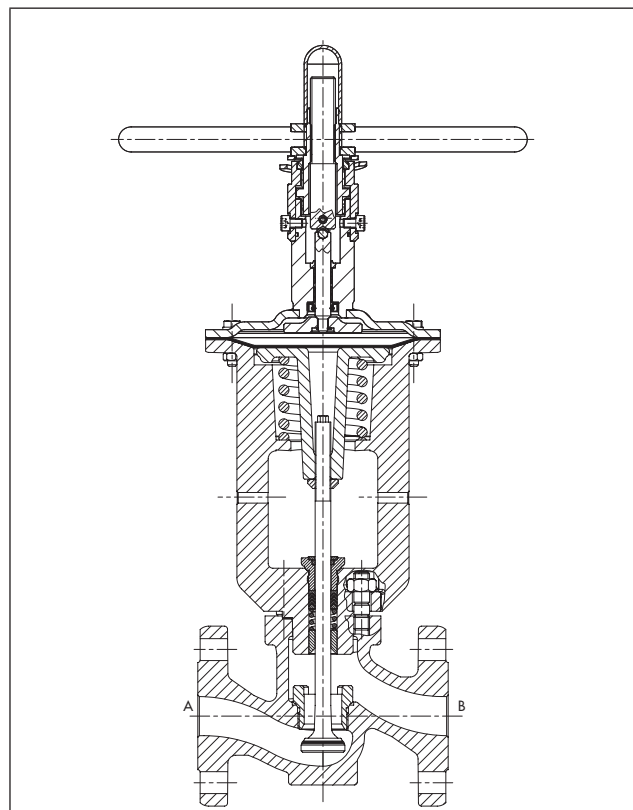

Fig. 3: Type 3351 Pneumatic On/off Valve with manual override - Fail-close version
2) For direction of flow B → A (see Fig. 3)